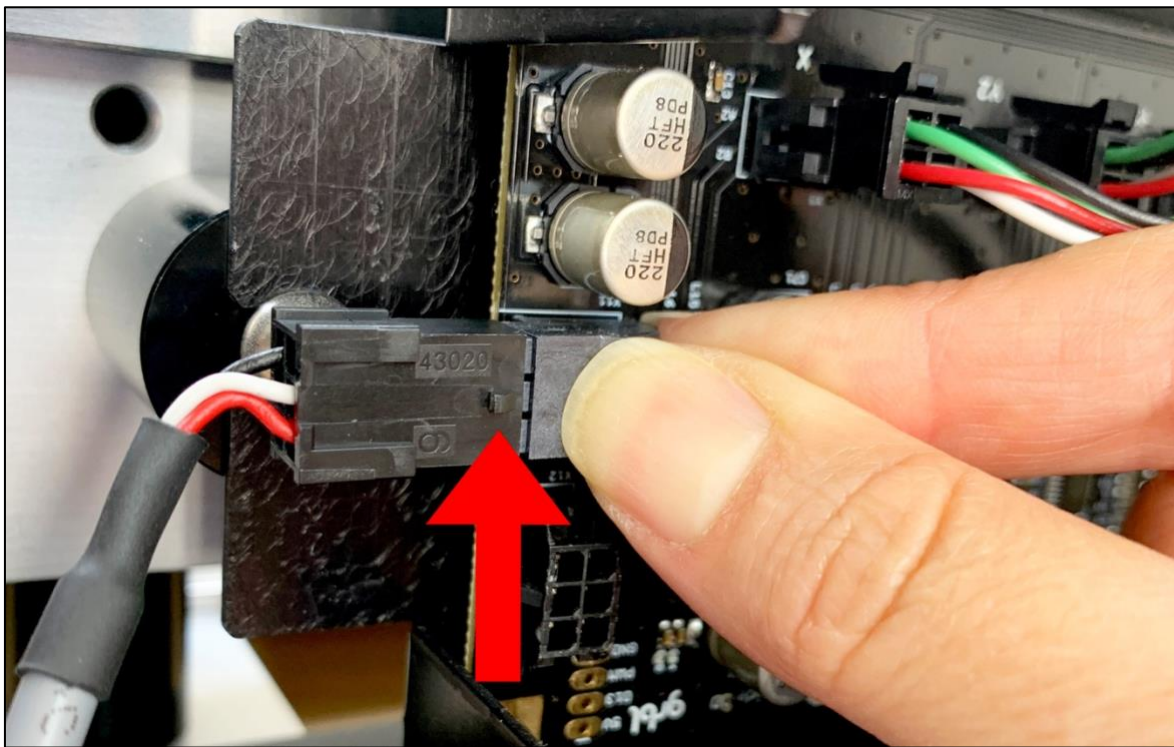

Figure 11
5. Connect the female end of the logic cable to the 6-pin male accessory connector protruding from the front-end of the Shapeoko controller. See *Fig. 11*.